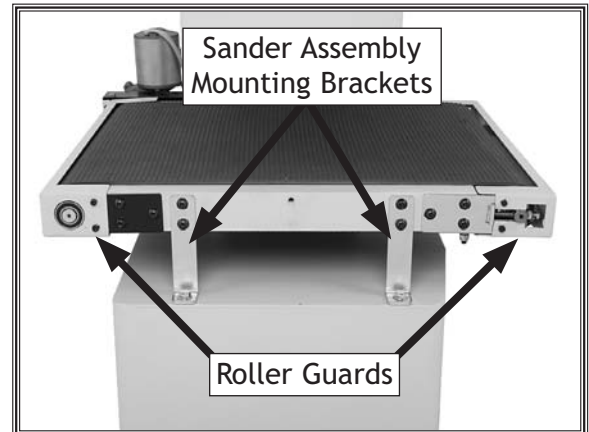

Figure 36. Sander assembly mounting brackets and conveyor roller guards.
2. Remove the cap screws and flat washers securing the front and rear conveyor roller guards (see **Figure 36**), then remove the guards.
7. Loosen, but do not remove, the upper cap screws on the left side of the conveyor assembly that secure the sander assembly to the mounting brackets (see **Figure 36** on **Page 37**).